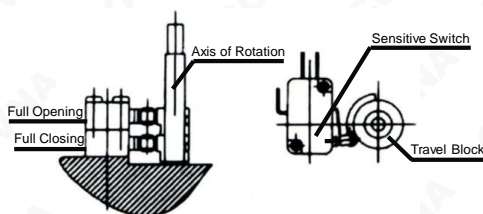

Figure 6
1. Adjustment of limit position switch (Figure 6)